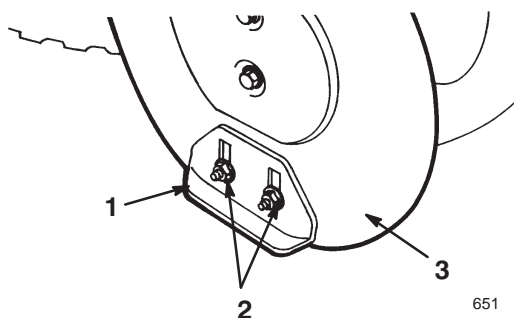

Figure 19
5. Loosen the 4 flange nuts that secure both skids to the auger side plates (Fig. 19) until the skids slide up and down easily.
10. Tighten the 4 flange nuts that secure both skids to the auger side plates (Fig. 19).